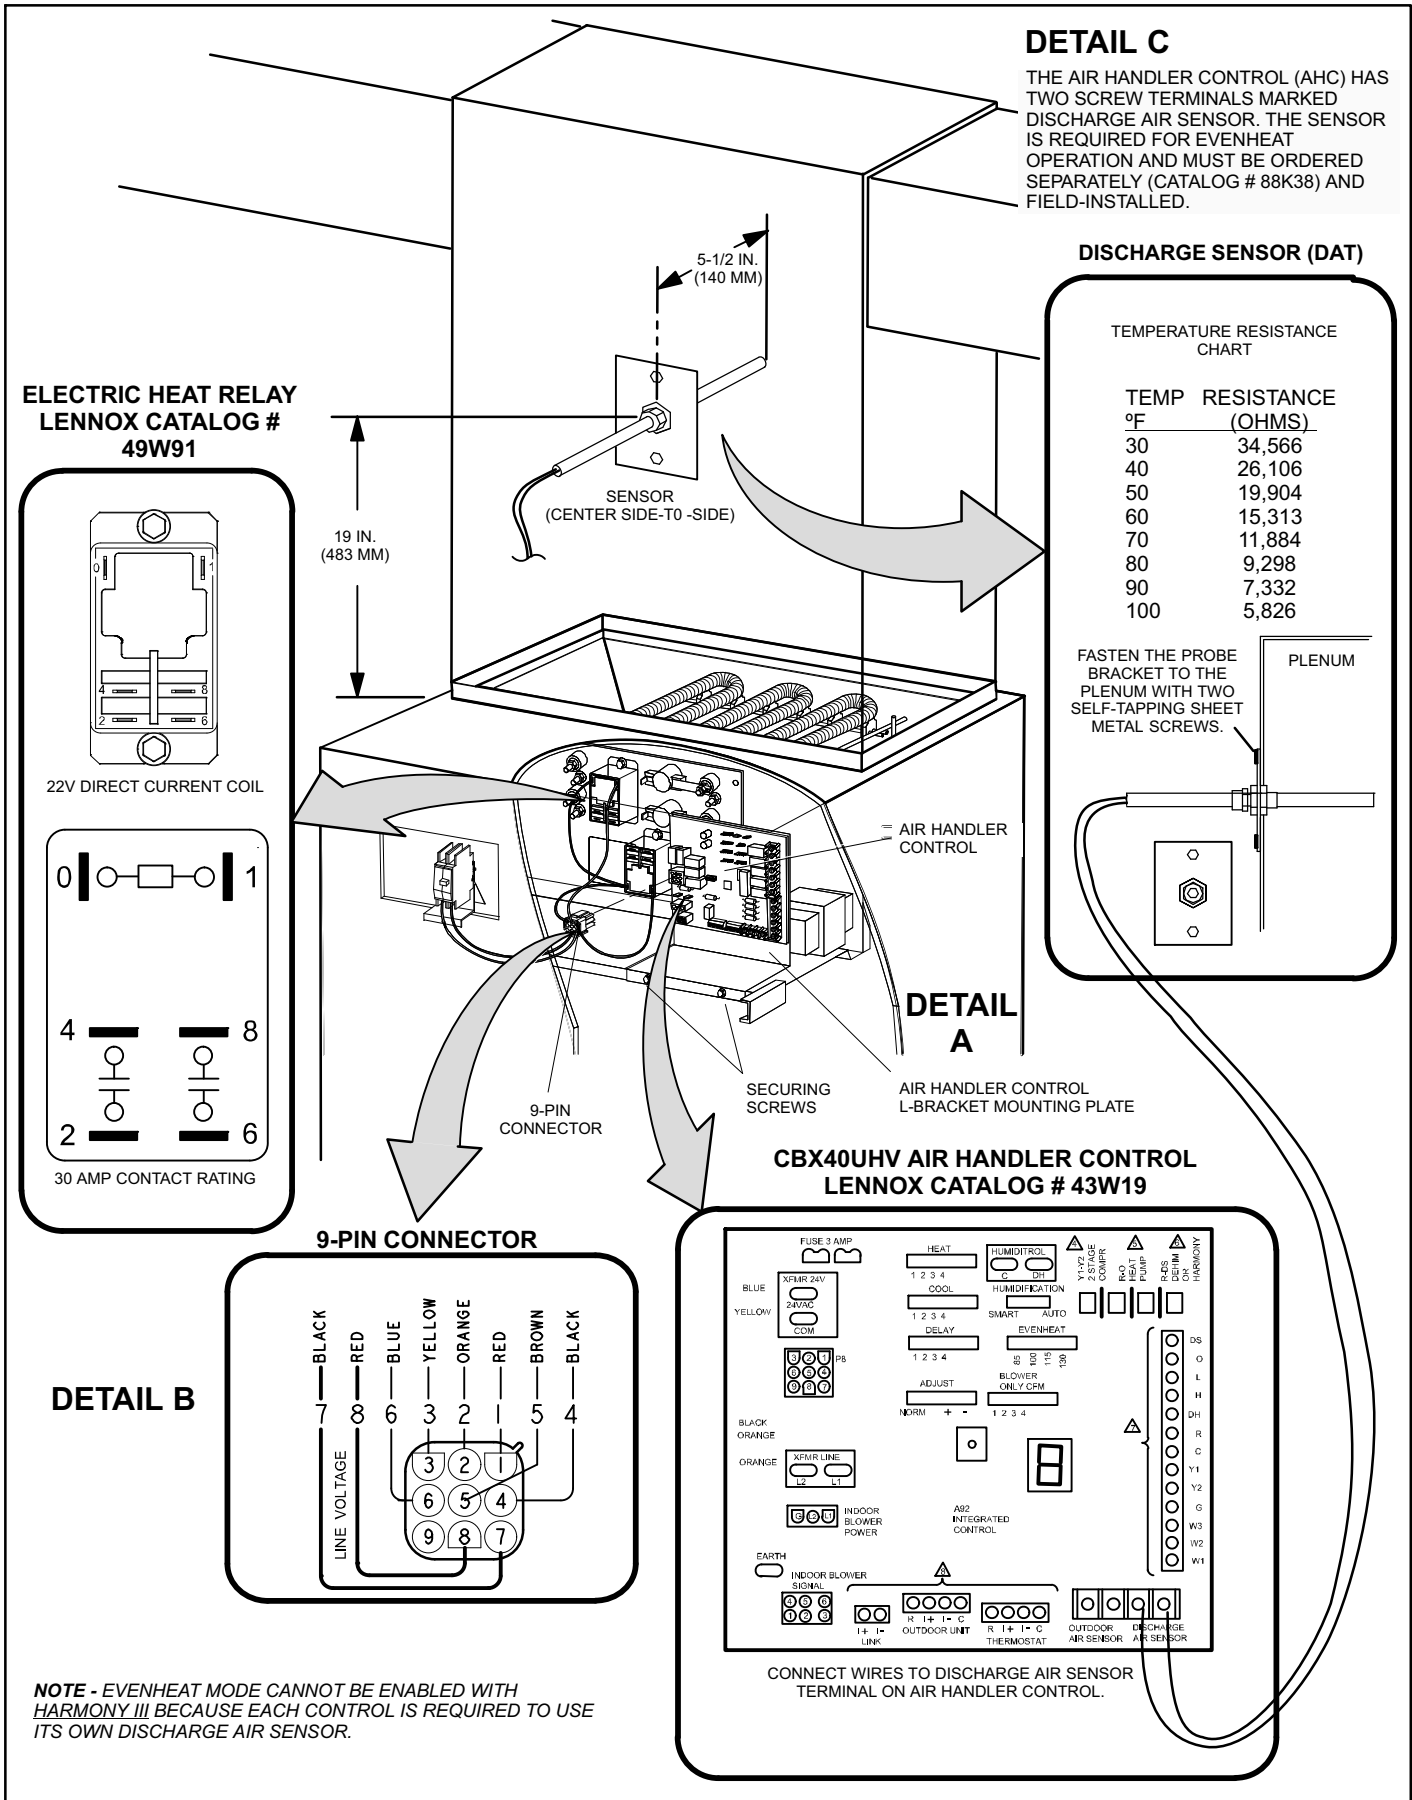

Figure 1. Component Connections
4. Loosen the two screws (see figure 1, detail A) securing the air handler control L-bracket mounting plate, and lift the plate off the screws. Pull the plate forward and let it suspend in front of the unit to allow access to the electric heat knockout.
8. Plug the 9-pin connector from the electric heat section onto the air handler control 9-pin receptacle as illustrated in figure 1, detail B.
The discharge air sensor should be mounted downstream of the electric heat elements and indoor air handler as illustrated in figure 1, detail C. It must be placed in a location with unobstructed airflow, where other accessories (such as humidifiers, UV lights, etc.) will not interfere with its accuracy.